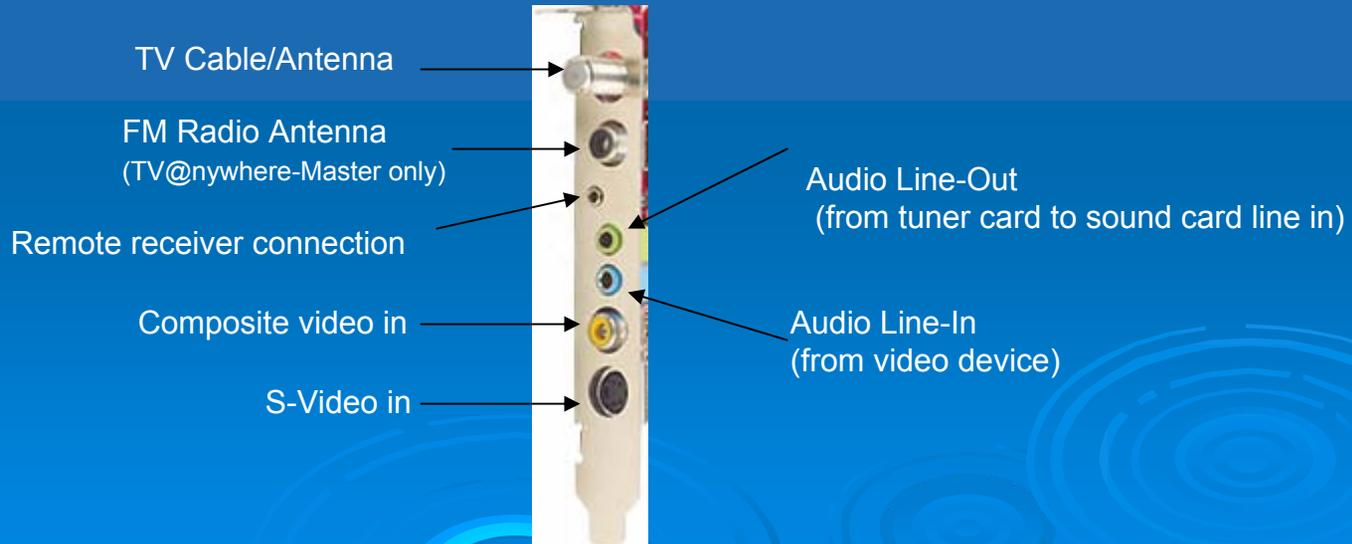

Fig 47-a
- Make sure sound and video output from source device are connected to composite video in or s-video in and line in of TV card and sound card respectively (Fig 47-a)